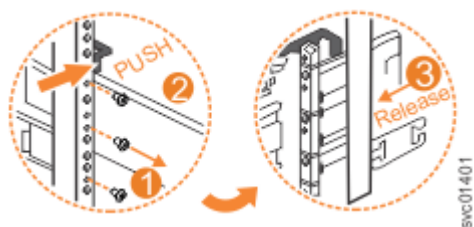

Figure 111. Remove the rail assembly from the rear frame bracket
3. Remove the two screws that attach the inner rail section to the rear bracket, as shown in Figure 111 on page 105.
4. Pull the rail forward, away from the rear bracket, as shown in Figure 111 on page 105.